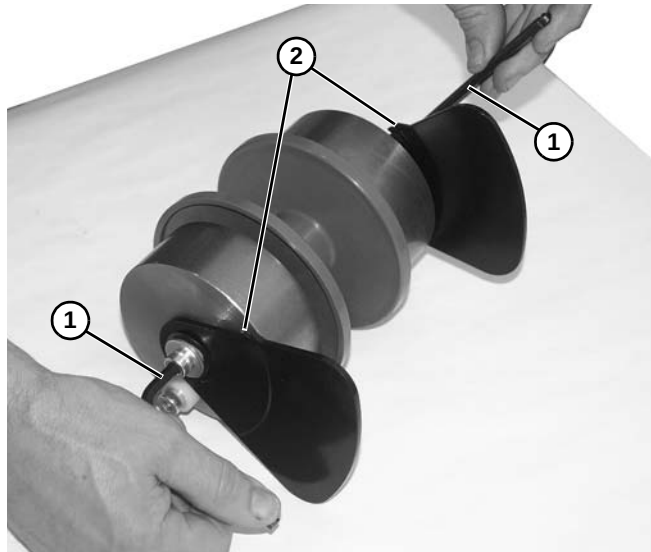

Figure 100
10. Install components reverse of removal, using two hex wrenches (**Figure 100, item 1**) on each side of idler assembly to tighten components.
*Be certain that notches (**Figure 100, item 2**) on both plates are on top side, and spacers are in same orientation, as shown, before tightening components.*